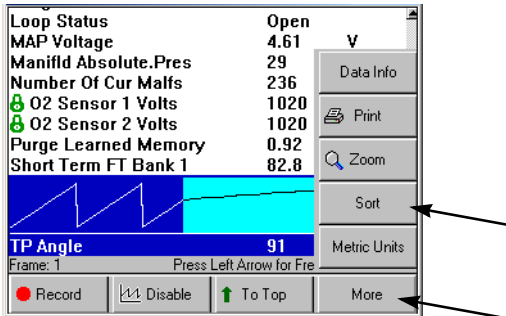

Figure 2.16: More Menu
- To lock a line, **select the line** and then press the **ENTER** key. This places a padlock icon at the left side of the line, as shown in Figure 2.16. Repeat this for as many lines as you want to lock and move to the top of the screen.